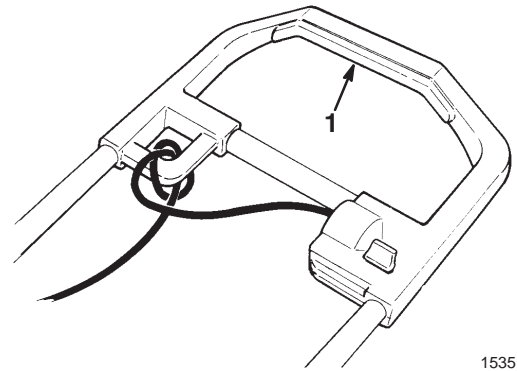

Figure 9
1. To start the rotor, squeeze the control bar (Fig. 9).